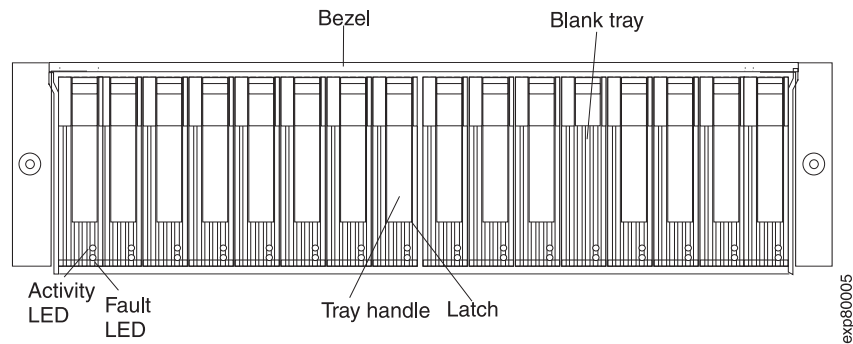

Figure 34. Hot-swap E-DDM LEDs
2. Check for Fault LEDs shown in Figure 34 on page 71. If any amber LEDs are lit, see “Solving problems” on page 93.